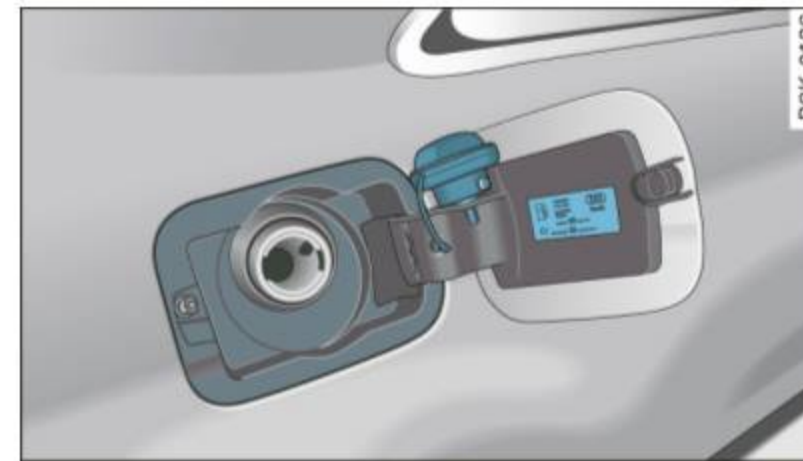

Fig. 200 Fuel filler flap with attached fuel cap
- Unscrew fuel cap counter-clockwise and hang it on the fuel filler flap ⇒ fig. 200.